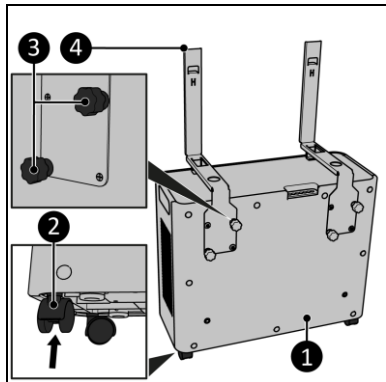

Figure 12
2. Attach the wheels (Figure 12, pos. 2) to the outdoor unit (Figure 12, pos. 1) by pushing them into the holes on the bottom of the outdoor unit.
3. Attach the indoor brackets (Figure 12, pos. 4) to the outdoor unit (Figure 12, pos. 1) by tightening two screw caps per bracket (Figure 12, pos. 3).